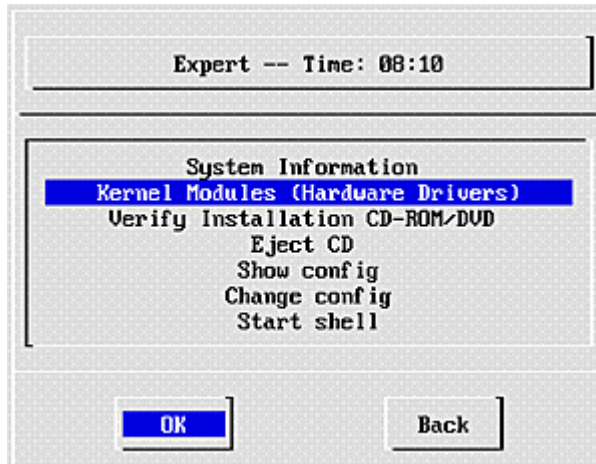

Figure C-7 Expert Menu
- The Expert menu (Figure C-7) is displayed. Click **Back**.